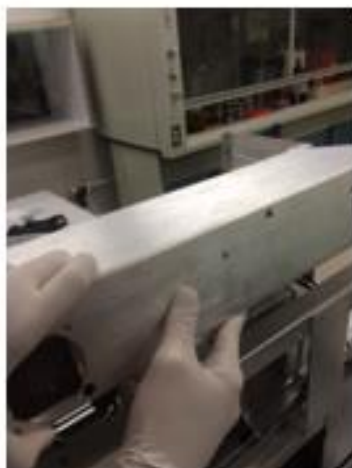

Figure 3: Power supply module and location of manifold foam insert
- 4) Lift up the power supply module as shown in Figure 3.